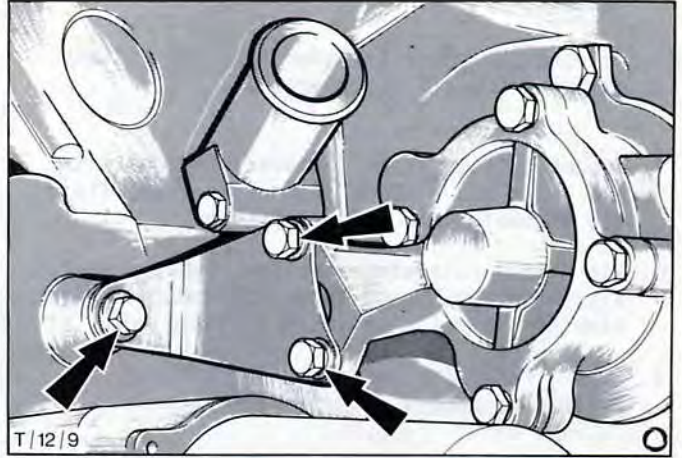

Fig.54. Vacuum pump support bracket.
11. Remove rear pump support bracket retaining bolts, Fig.54.